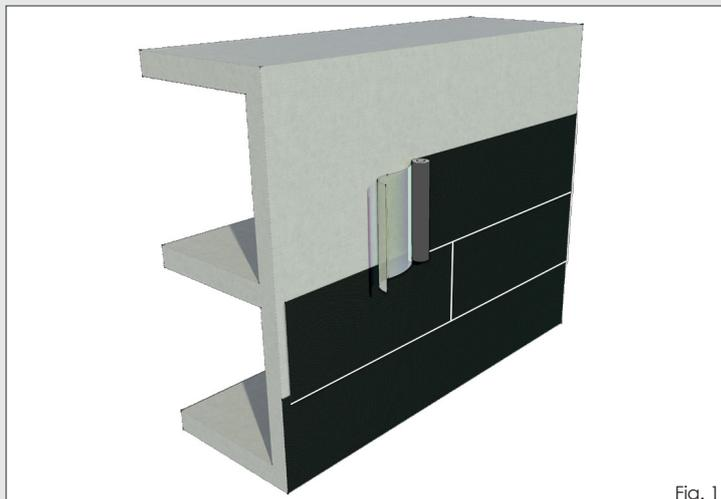

Fig. 1
3. Starting at a corner, peel back release paper by approx. 150mm. (Fig.1)